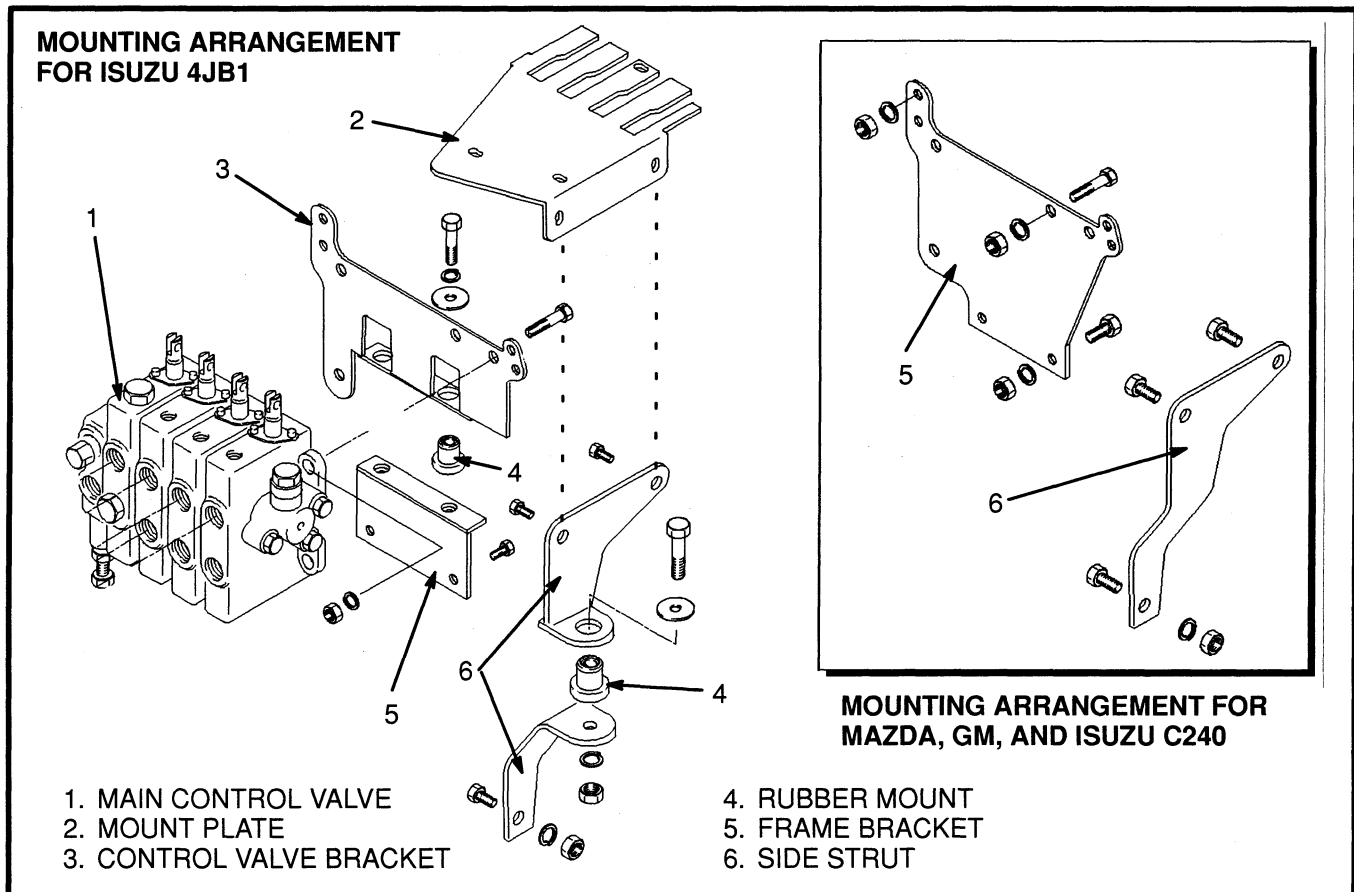

FIGURE 7. CONTROL VALVE MOUNTING
4. See FIGURE 7. Remove the mount plate (2) at the top of the control valve. Remove the side strut (6) from the frame. Remove the bolts that hold the main control valve to the frame bracket.
1. See FIGURE 7. Install the control valve on the frame bracket. Install the bracket and control valve on the frame of the lift truck. Install the side strut to the frame.